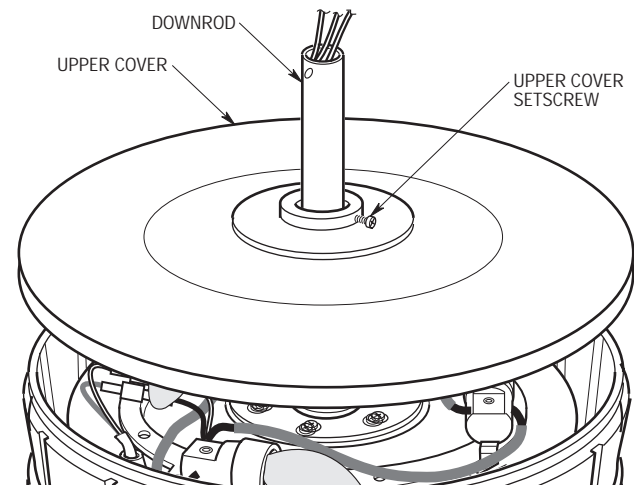

Figure 7
- 8. Loosen the upper cover setscrew. Make sure the setscrew is fully extended to prevent damage to the downrod finish. Slide the upper cover over the downrod and set firmly on the glass crown. Tighten the setscrew securely (Figure 7).